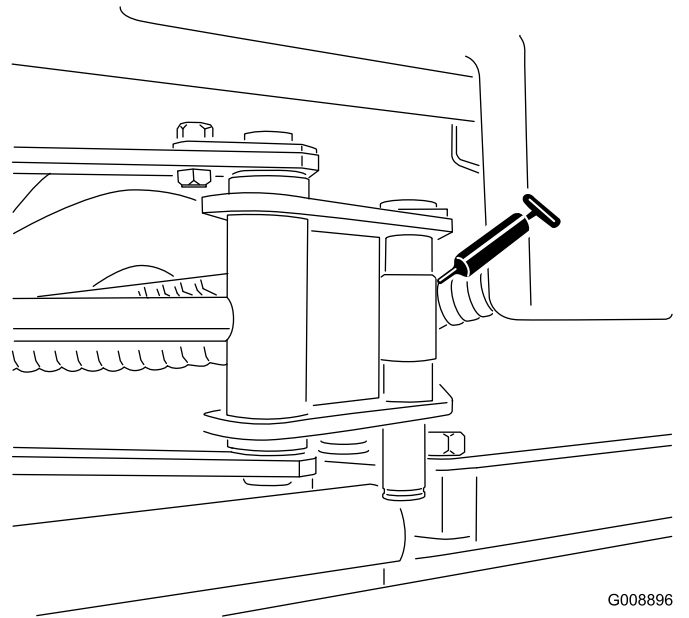

Figure 29
- 2 sidewinder-cylinder ends (Figure 29)